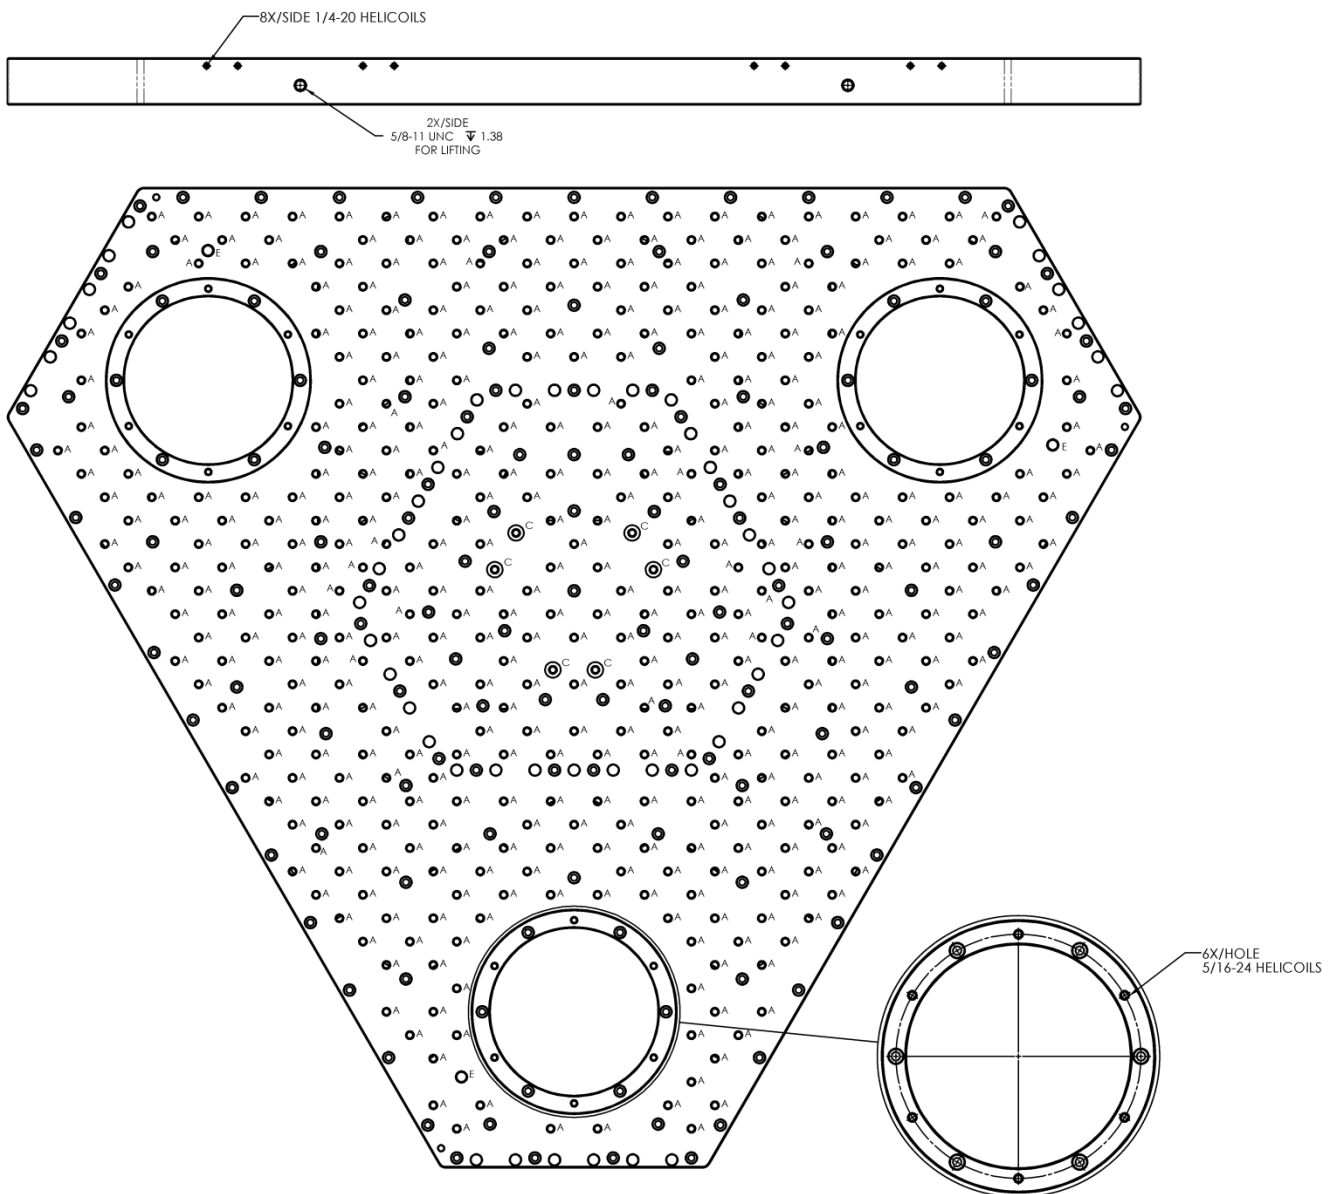

Figure 9
1. Install helicoils in locations shown Figure 9 There are no dowels installed in this part.